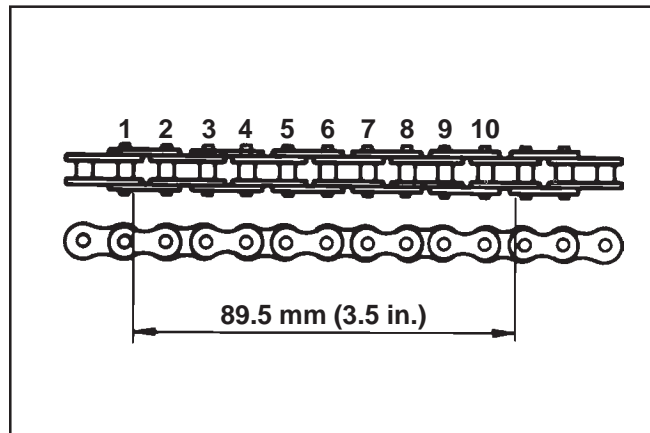
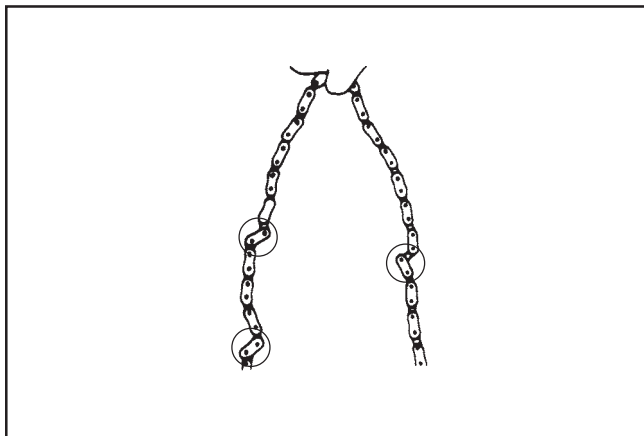

Figure 10-24. Chain Stretch Limit.
Figure 10-25. Inspect for Binding.
- b. Clean the chain (CS4 and CS6) in solvent to remove as much dirt as possible. Dry and then check the condition of the chain. If any links are tight and do not pivot freely (see Figure 10-25), or the chain has stretched beyond the specified limit measured across 10 pitches (see Figure 10-24), it must be replaced.